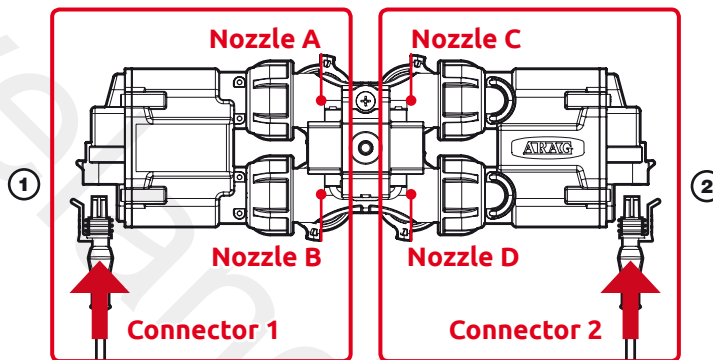

Fig. 228
- 1 Connect in sequence **ONLY SELETRON NOZZLE HOLDERS A AND B**, from left to right until the end of the boom (**connector 1** in Fig. 228).